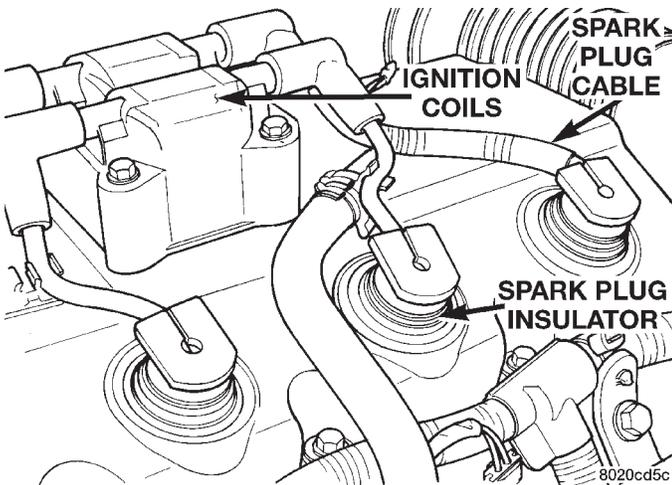

Fig. 10 Ignition Coil Pack
- (1) Remove ignition coil pack (Fig. 10).
- (2) Remove the cylinder head cover bolts.
- (3) Remove cylinder head cover from cylinder head.